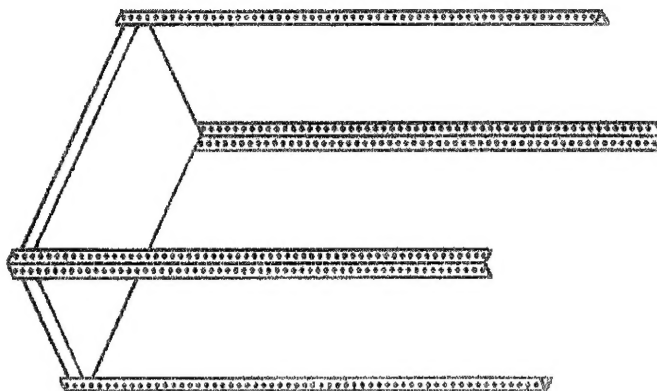

Figure 2
STEP 3: Rotate the partially assembled unit to the opposite side so that two (2) of the remaining post can be installed to the shelf (see figure 2). Again align the holes from the post to the shelf, and insert the 1/4 - 20 x 1/2" bolts through the holes on both post. Apply the nuts to the bolts and tighten with a 7/16" nut driver, socket, or adjustable wrench (see figure A).